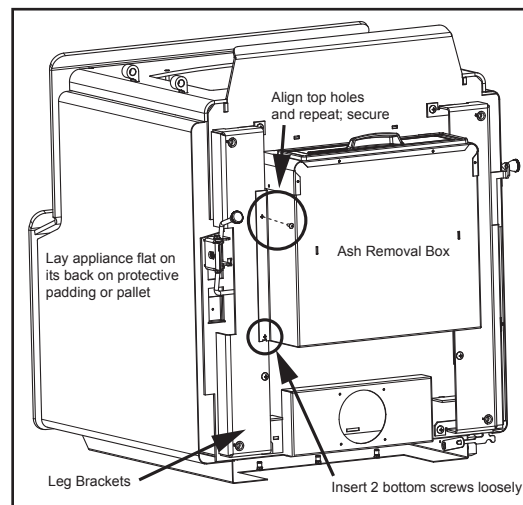

Figure 20.1
- Start bottom two bolts through ash drawer, leg mount and into the bottom of the appliance (**Figure 20.1**).